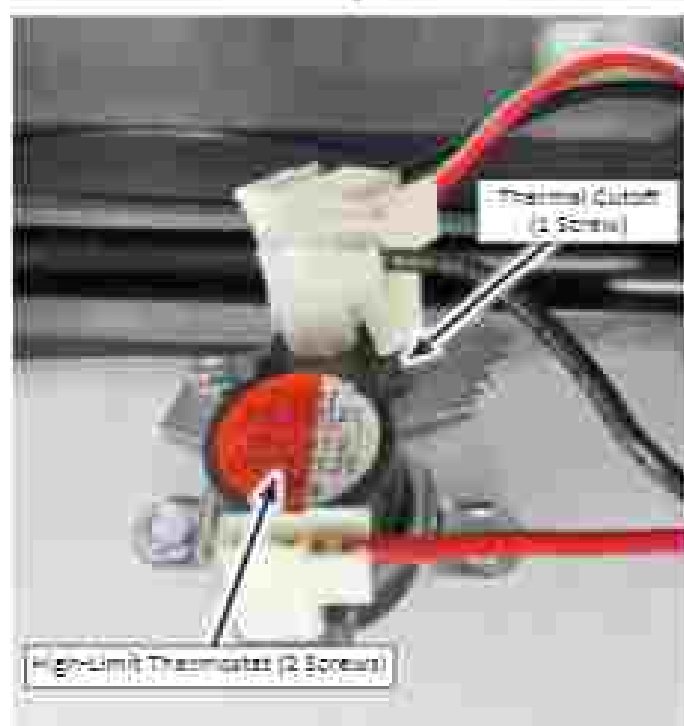

Figure 5 - Hot Water Thermostat
7. To remove the High-Limit Thermostat or the Thermal Cutoff (see Figure 5):
- a) Disconnect the two (2) wire connectors from the component terminals.
- b) Remove the two (2) screws from the High-Limit Thermostat, or the single screw from the Thermal Cutoff. Remove the component from the venturi.